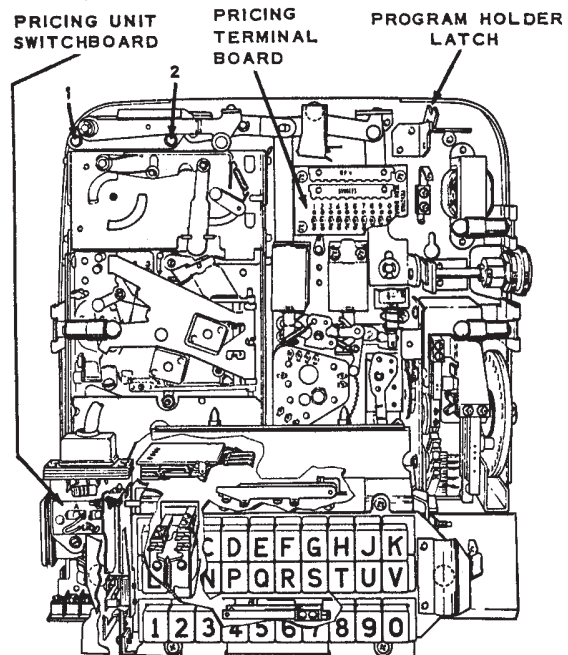

Figure 2.
- B. Unscrew 1 and 2 (Figure 2), and remove coin chute.
- C. Release catch 3 (Figure 2) to right and remove 50¢ section of slug rejector by lifting up and out.